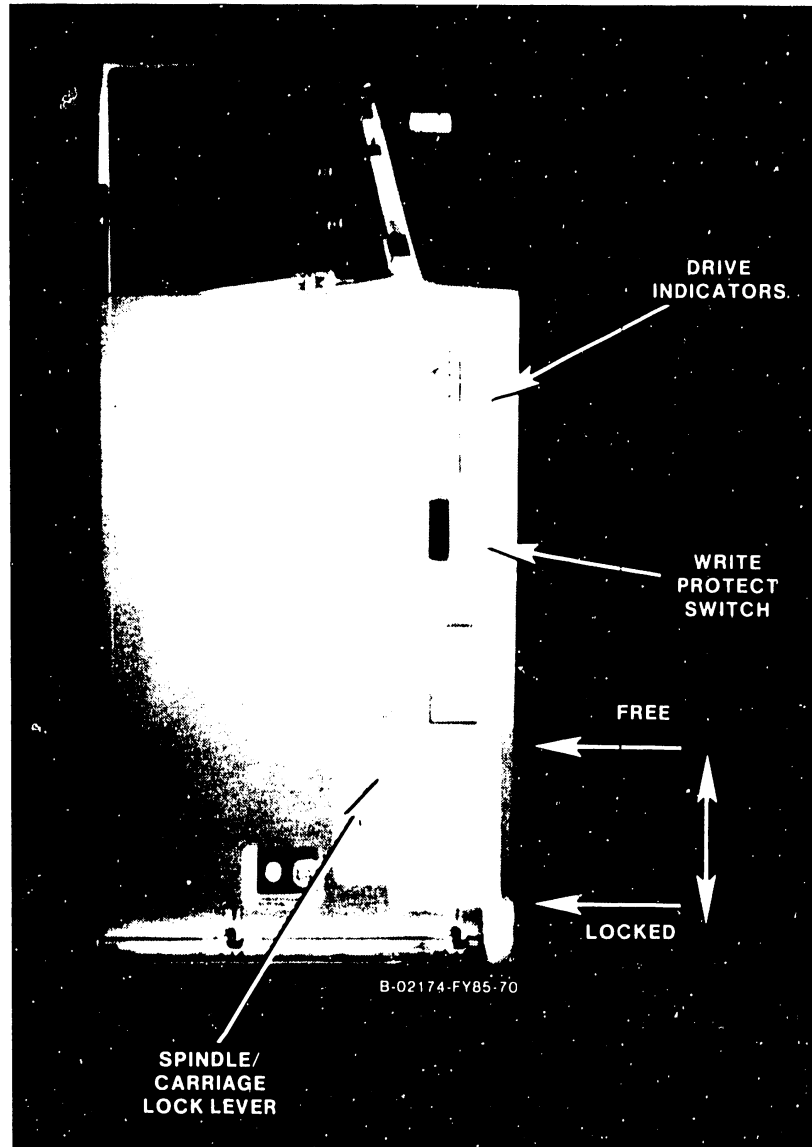

Figure 5-39. 76 Megabyte Disk Drive (Rear View)
4. Facing the rear of the drive, lock the Spindle and Actuator into their shipping positions by moving the red Spindle and Actuator Lock Control Lever on the rear of the drive (figures 5-39 or 40) to the right, push it down as far as it will go, and then move it to the left into the LOCK position.
13. Unlock the Spindle and Actuator from their shipping positions by moving the red Lock Control Lever on the rear of the drive (figure 5-39) to the right (as seen from the rear), push it up as far as it will go, and then move it to the left into the FREE position.